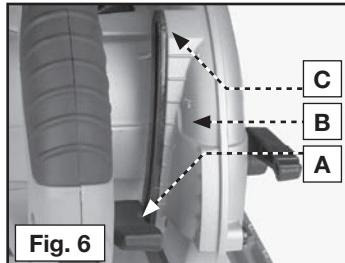

Fig. 6
1. Lift the depth adjustment locking lever (A) Fig. 6, located at the rear of the saw.
**NOTE:** The upper guard (B) Fig. 6 is marked in 1/4" increments for convenience in setting the depth of cut. Align the depth segment mark (C) Fig. 6 with the desired depth marking on the guard.